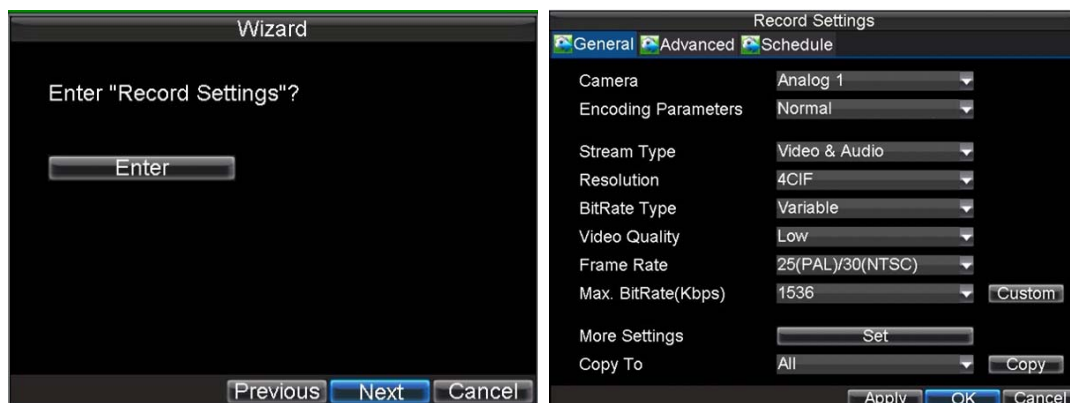

Figure 6. Record Settings
9. Click *Next* button to enter the **Record Settings** dialogue box, as shown in Figure 6.